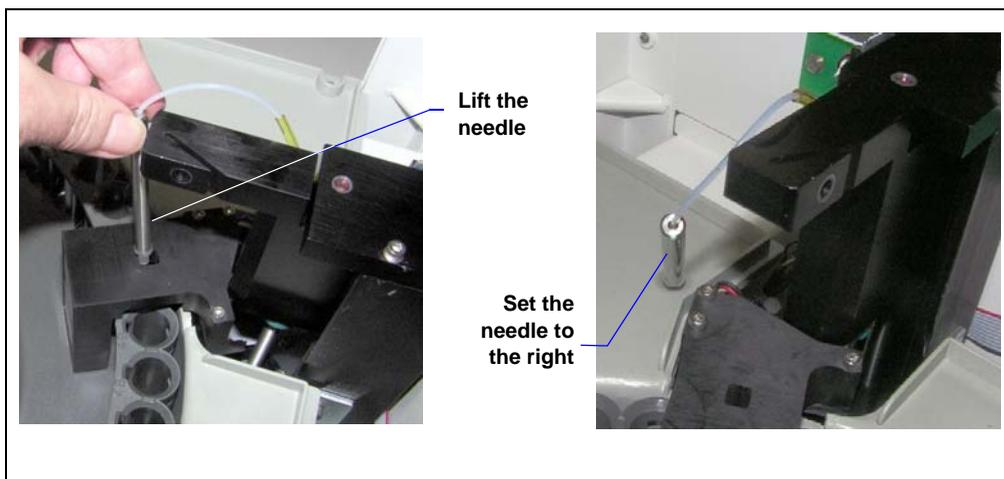

Figure 5-4. Lifting the Needle Out of the Carousel
8. Lift the needle out of the carousel and set it to the right (see Figure 5-4).